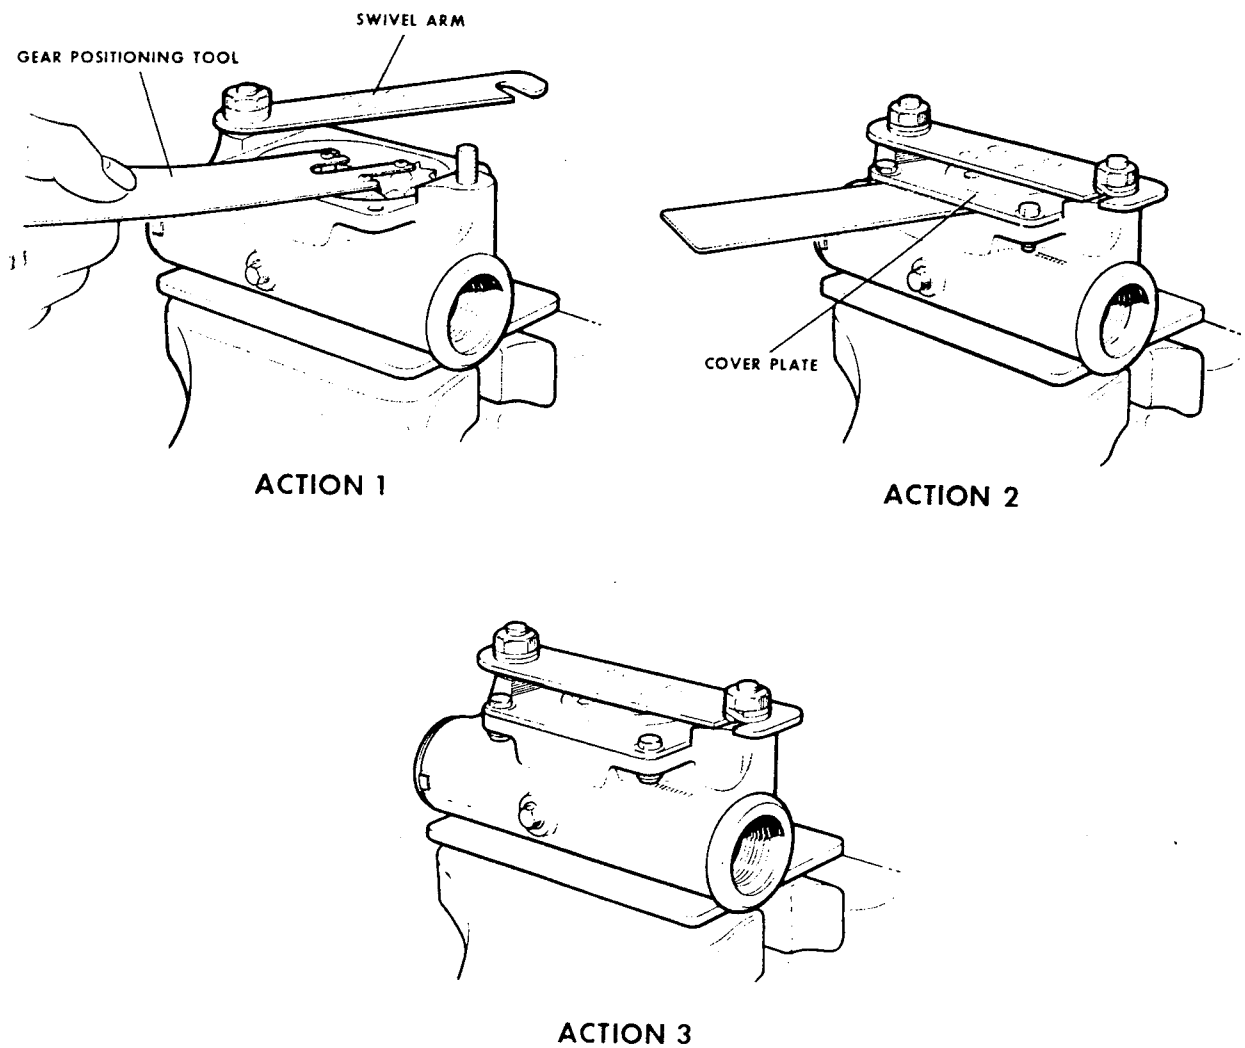

Fig 4 Using the special jig and gear positioning tool
9.13 Place the assembly jig swivel arm on the left-hand mounting bolt so that the riveted plate is face downwards and secure, using a double spring washer and a 5/16 in BSF nut, finger-tight only. Ensure that the arm is free to swivel and that the hook end engages the right-hand mounting bolt. Position the arm at approximately 90 deg. to the body (fig 4, Action 1).
9.14 Ensuring that all three lower pivot pins are seated correctly in their bearing points, place the gear positioning tool over the upper pivot pins and maintain a light pressure to restrain the cone-end plunger and spring (fig 4, Action 1).
9.15 Replace the cover plate, ensuring that the pivot pins enter their bearing sockets, (fig 4, Action 2).
9.16 Move the assembly jig swivel arm to engage the right-hand mounting bolt and secure, using a double spring washer and a 5/16 in nut, finger-tight only, (fig 4, Action 2).
9.17 Position the 2BA securing bolts through the holes in the cover plate and body, (fig 4, Action 3).